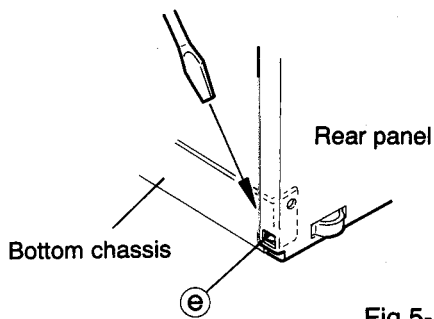

Fig.5-12
6. Use a screwdriver, etc., to disengage the two engagements bottom chassis clips ⑤ and ① from the bottom part of the side panels of the rear panel assembly.(See Figs. 5-12, 5-13)